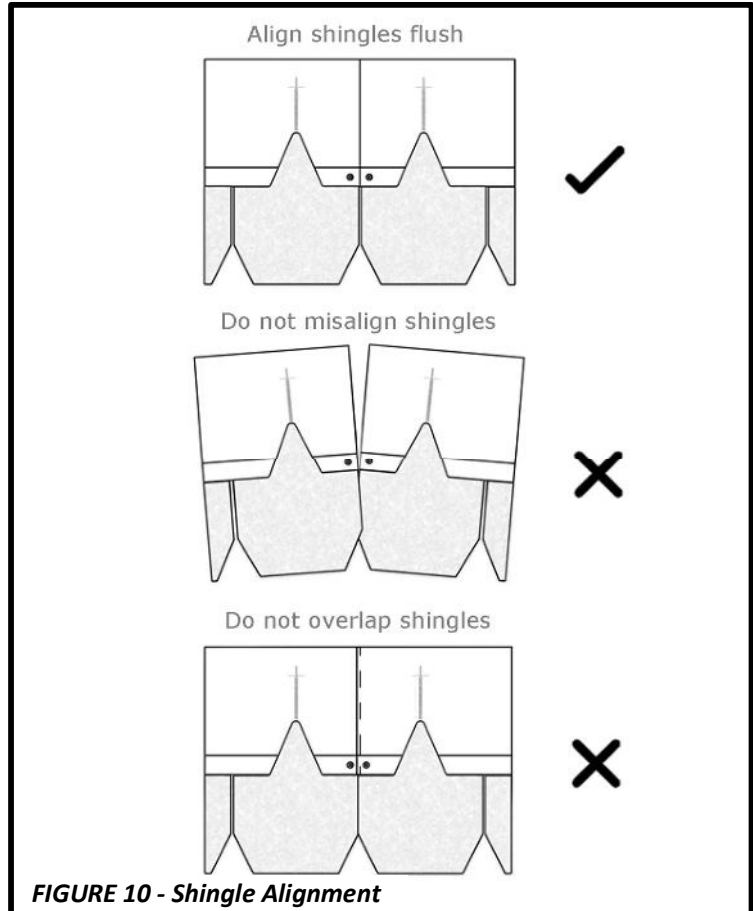

FIGURE 10 - Shingle Alignment
- When installing shingles side by side, ensure that the edges are flush with each other, so that the course is straight. It is incorrect to misalign or overlap shingles see **Figure 10**.